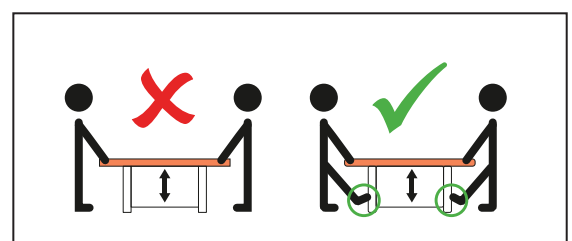

Fig.3 - Correct way of lifting / lowering the table top.
1. Place a foot in both table recesses at adjacent sides. Fig. 3 (these will help steady the table base, when lifting).
1. Place a foot in both table recesses at adjacent sides. Fig.3 (these will help steady the table base, when lifting).